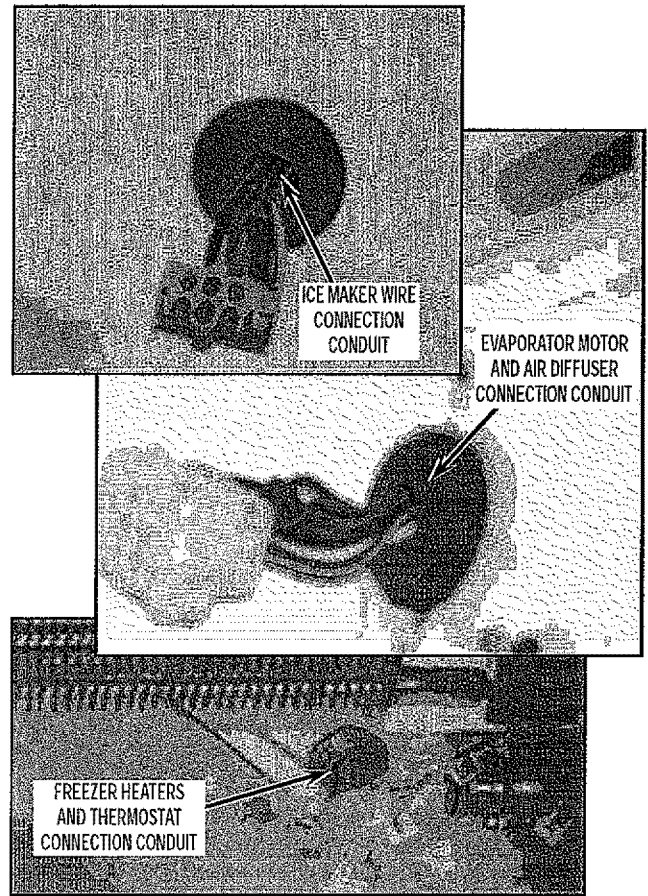

FIGURE 7
14. Using the gum sealer (Butyl), make sure to seal all wire harness conduits to prevent any air leaks. See *Figure 7*.